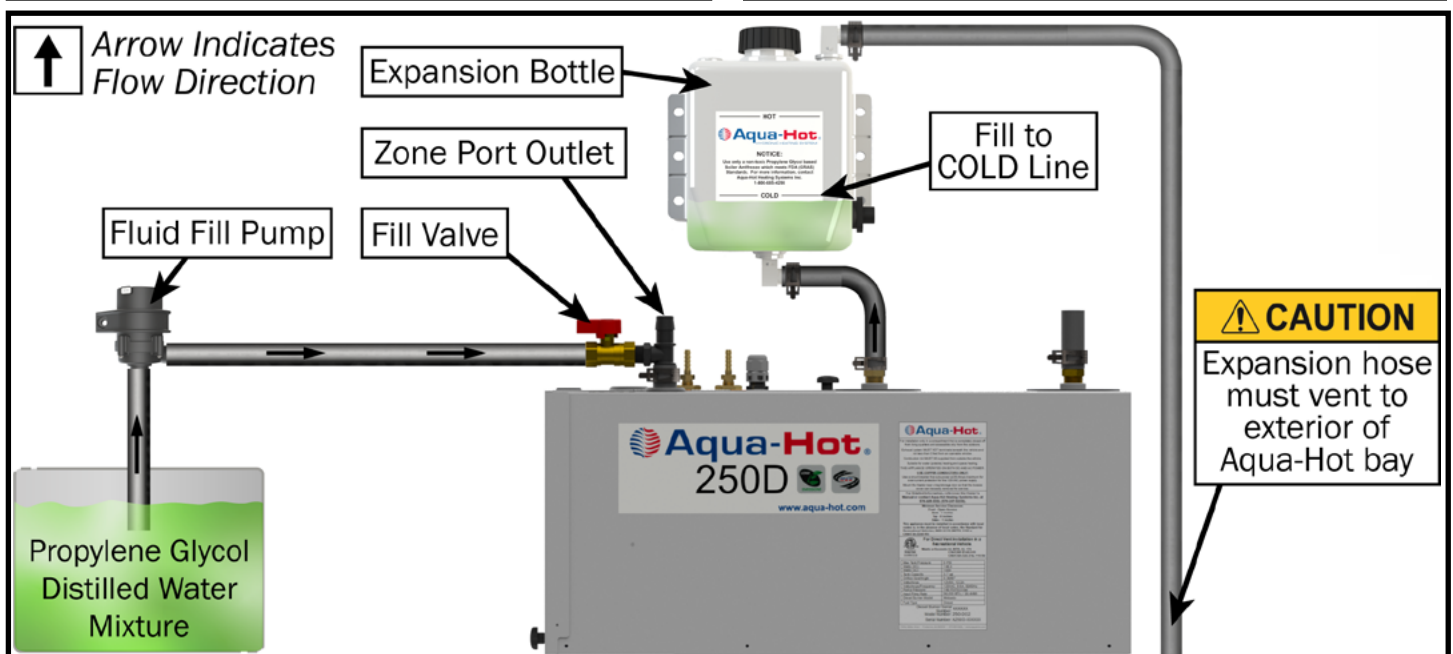

Figure 46
1. Locate the fill valve at the zone port outlet (Figure 46).